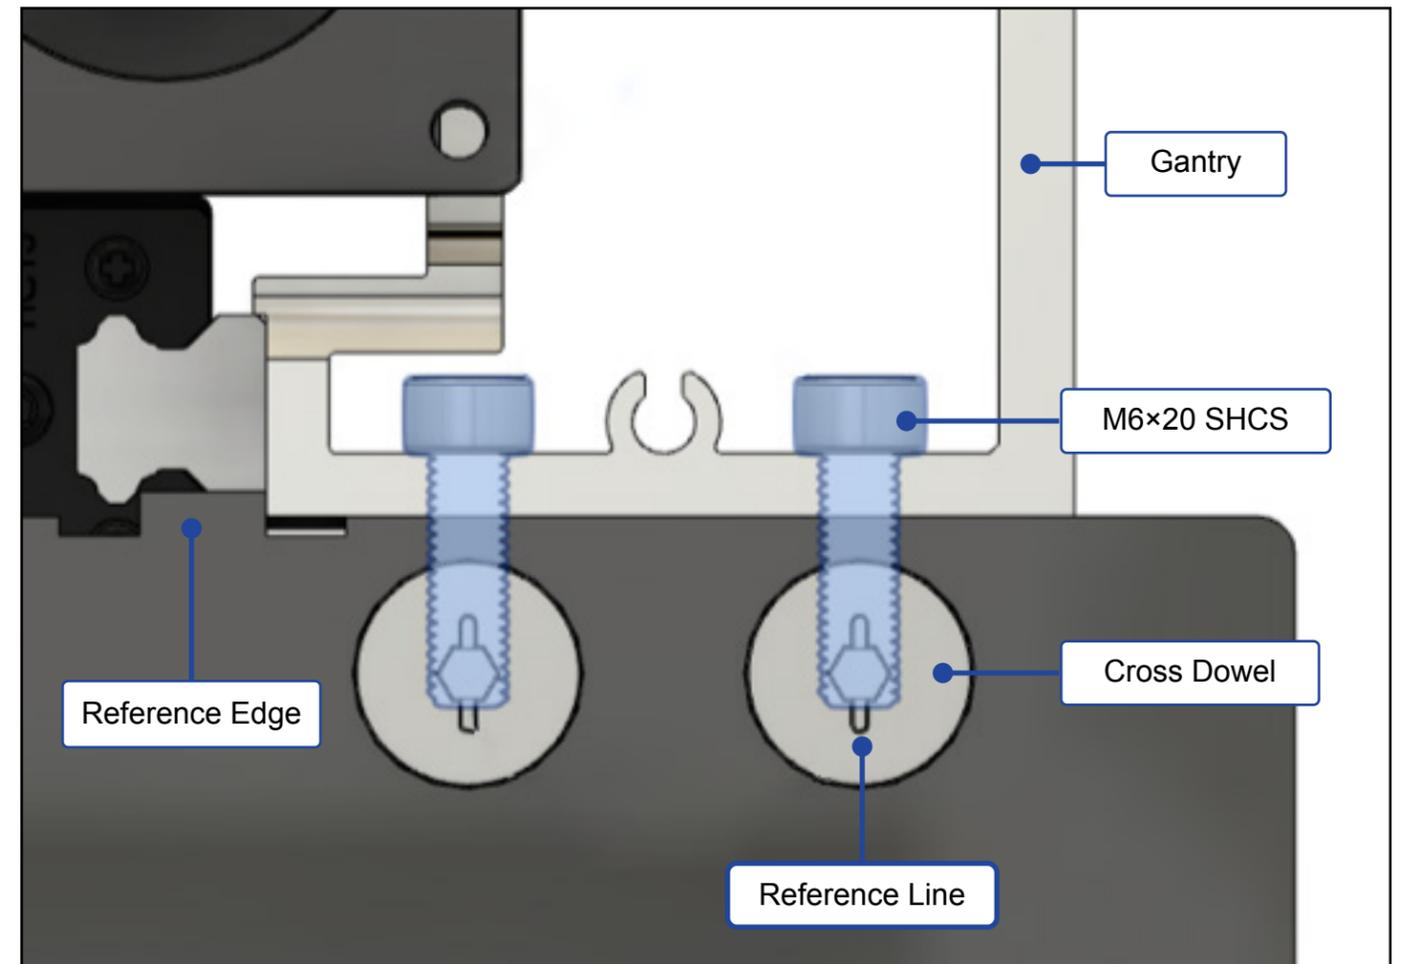

Figure 1-7
- Orient the cross dowels so that the reference line on the face of each is vertical. See **Fig. 1-7**.
- Use a 5mm hex key to loosely re-insert the two (2) M6×20mm SHCS to attach the gantry to the Y-Right assembly. See **Fig. 1-7**.
- Use a 5mm hex key to loosely re-insert the two (2) M6×20mm SHCS to attach the gantry.
- Keep pressure on the gantry to keep it engaged with the reference edge on each carriage as you fully tighten all four (4) M6×20mm SHCS.